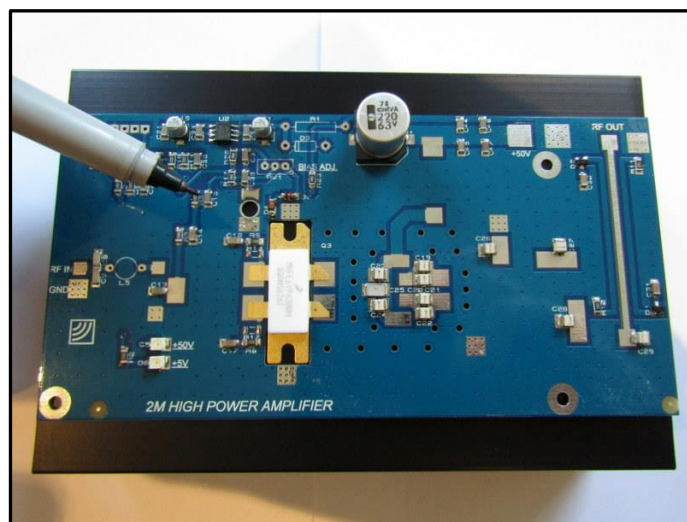

Figure 1: Marking the heatsink for drilling.
2. Lay the PCB on top of the heatsink and place the MRFE6VP6300H power transistor into its cut-out in the centre of the board. Using a fine-tip marker or scribe, mark the 5 holes in the PCB and a further two holes for mounting the transistor. See figure 1.